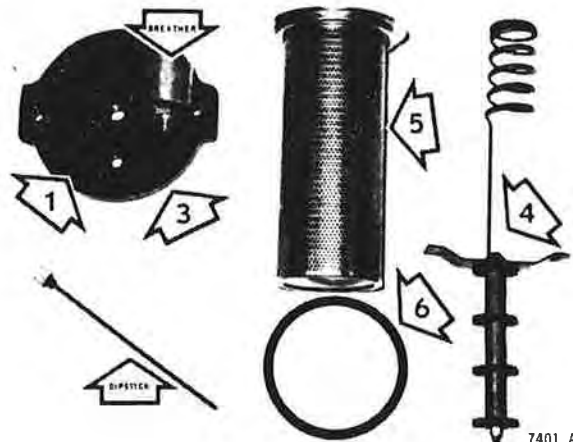

Figure 100
2. Remove two hex nuts and lock washers, and lift cover (1, Figure 100) off top of tank.
3. Remove hold down spider (4).
4. With a clean hand, reach into tank and remove screen (5) and gasket (6).
1. Install gasket (6, Figure 100) on screen (5).
3. Place spider assembly (4) on screen.
4. Install seal (3) in tank cover.